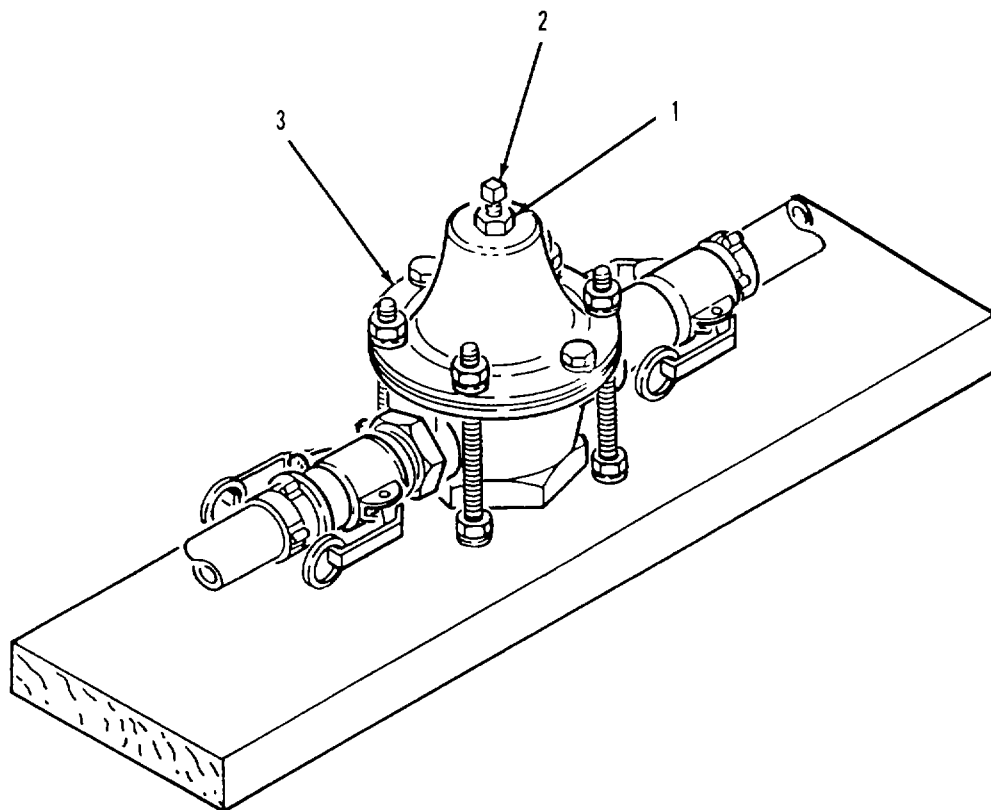

Figure 4-12. Water Pressure Regulator Adjustment
(19) Install threaded rods (10) on board (11) with four washers (7) and nuts (6) Adjust position of nuts (6 and 9) on threaded rods so that rods extends about 1/4-inch below board
(20) Install four nuts (5) and washers (10) on threaded rods (10)
(21) Lower regulator assembly (3) onto threaded rods (10)
(22) Install four washers (2) and nuts (1) on threaded rods (10)
(23) Position four nuts (5) and washers (4) against bottom of regulator assembly (3), then tighten four nuts (1)
f. Adjust. Refer to figure4-12
(1) Install regulator assembly in water system (hose and nozzle kit) (para 3-4a)
(2) Startup water system (para 2-12c) and check regulator assembly for leaks
(3) Squeeze distribution nozzle control lever (para 2-2) and allow water to flow
(4) If water flow at distribution nozzle is not at desired pressure, loosen locknut (1) on regulator assembly (3).